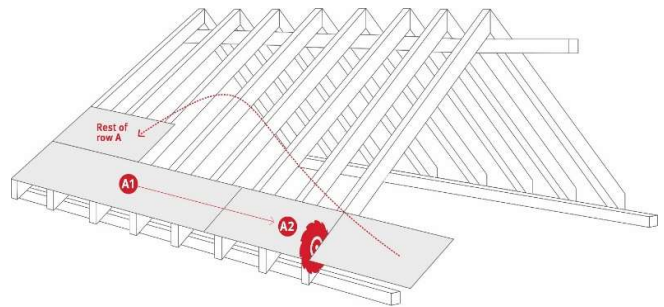

Figure 9
5. Cut-off from last panel the part which is offsetting the roof framing and check its length. If the length is equal to at least two free rafter spans (i.e.: 1250 mm), then the cut-off piece of row A can be used as starting panel on the next row, in the opposite roof corner. If not, than it shall be considered as waste and should no longer be used (figure 9).